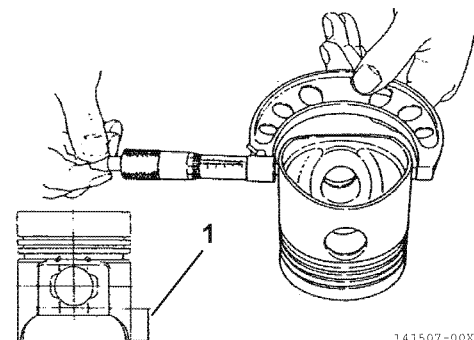

Figure 6-74
4. Measure the diameter of the piston skirt at 90° to the wrist pin bore as shown (Figure 6-74). Measurements must be taken at a specified distance (1, Figure 6-74) from the bottom of the piston, based on engine model. Record the measurements. See Piston on page 6-10 for specifications.